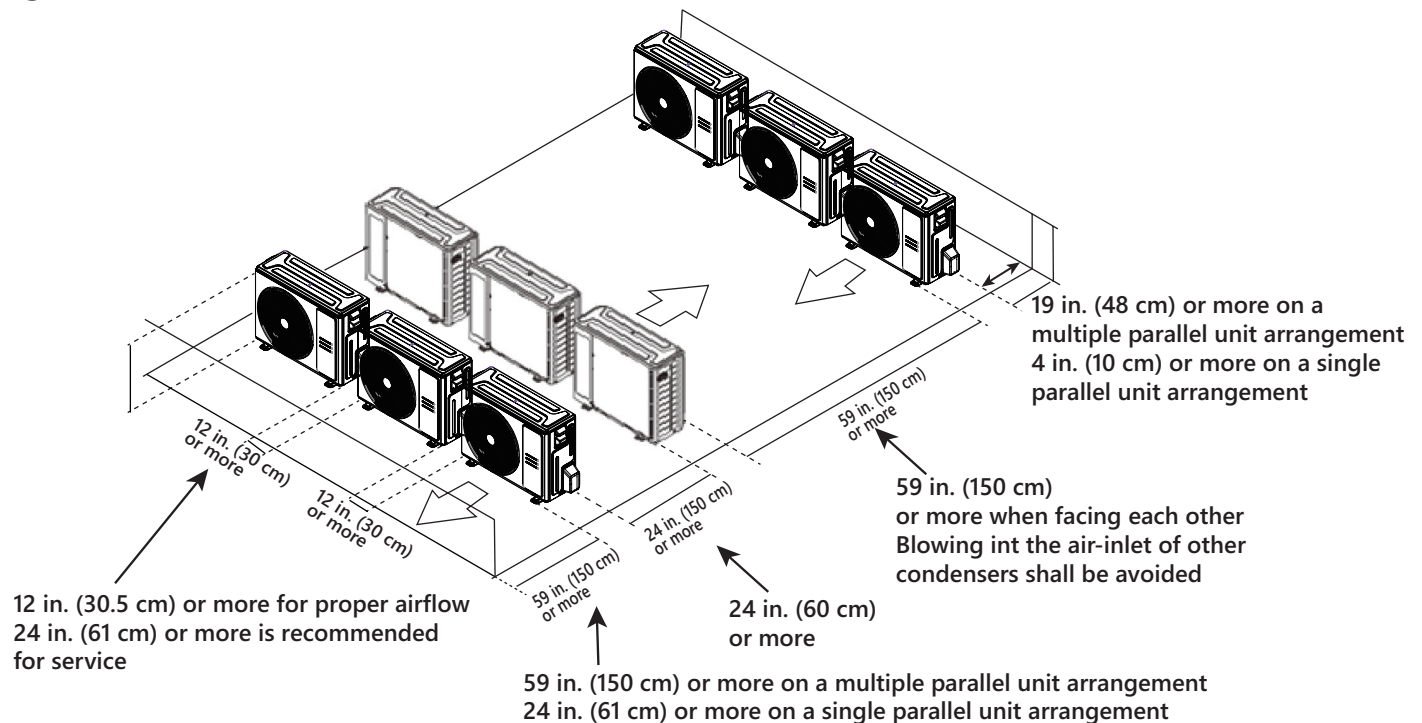

Fig. C-3: Clearances for Multiple Units
- Allow sufficient space for airflow and service of the unit. See Fig. C-3 for the required minimum distances between the unit or walls.